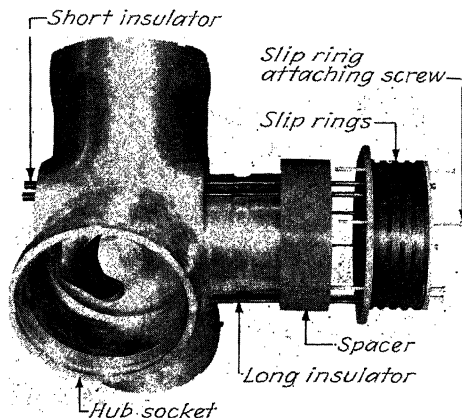

FIG. 58.—Assembling hub for three-blade propeller.
*Hub* (Fig. 58).—Assemble the slip-rings and insulator rings on the insulator tube. If they are not assembled properly, the connector rod contacts will not be flush with the front face of the hub.